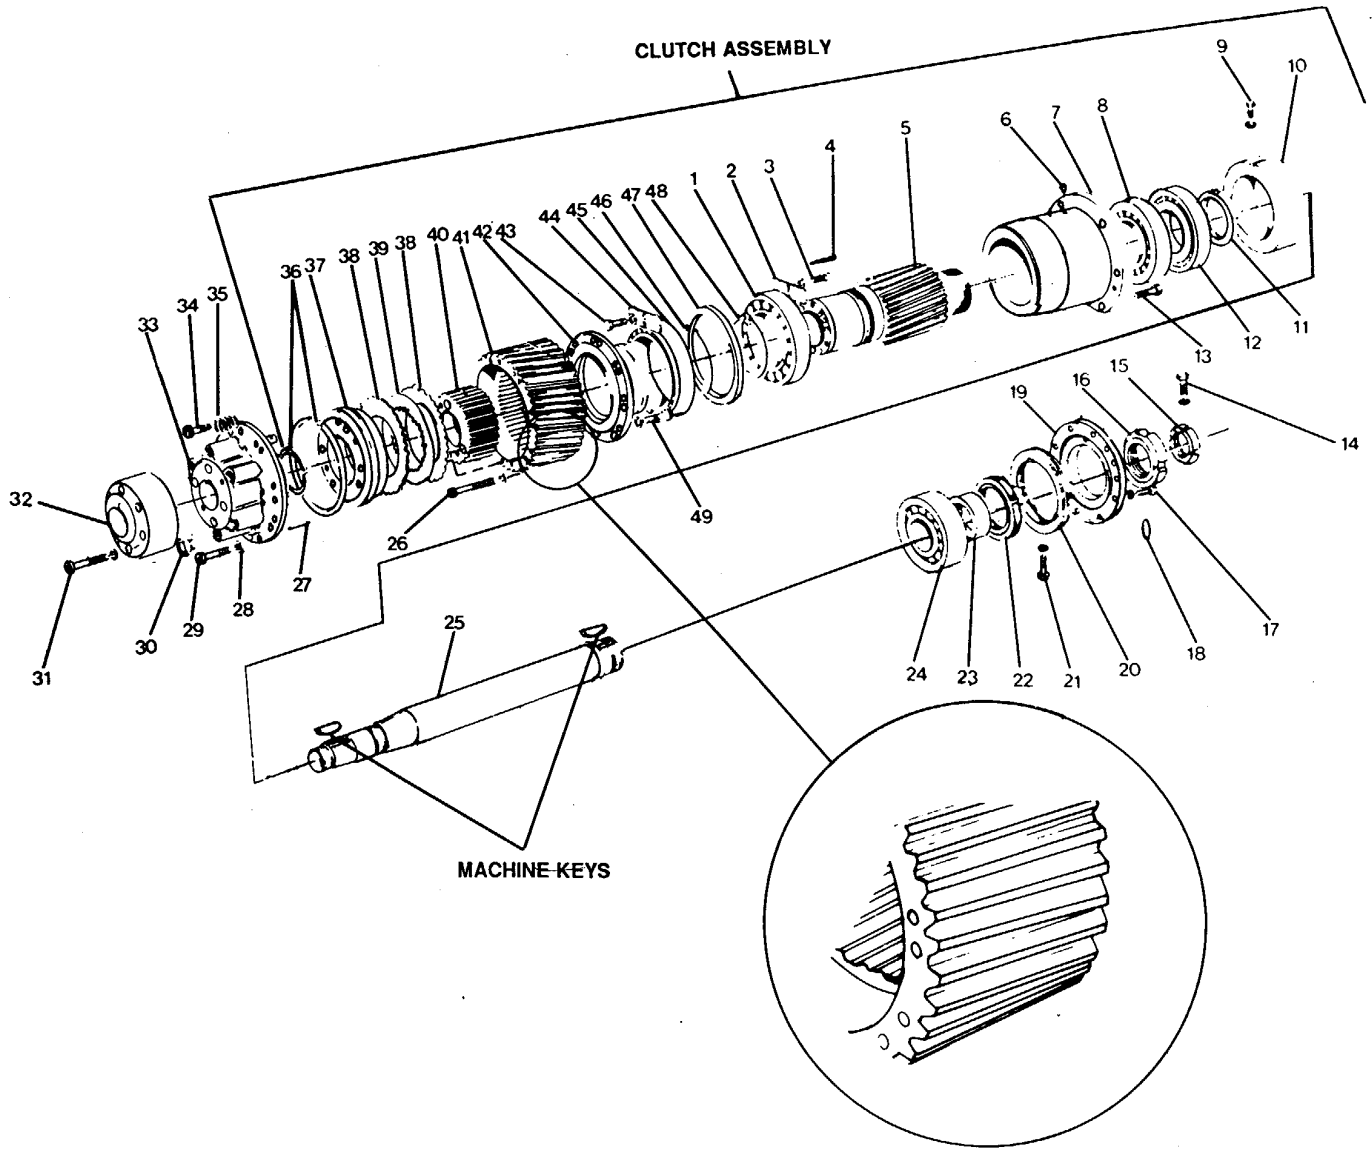
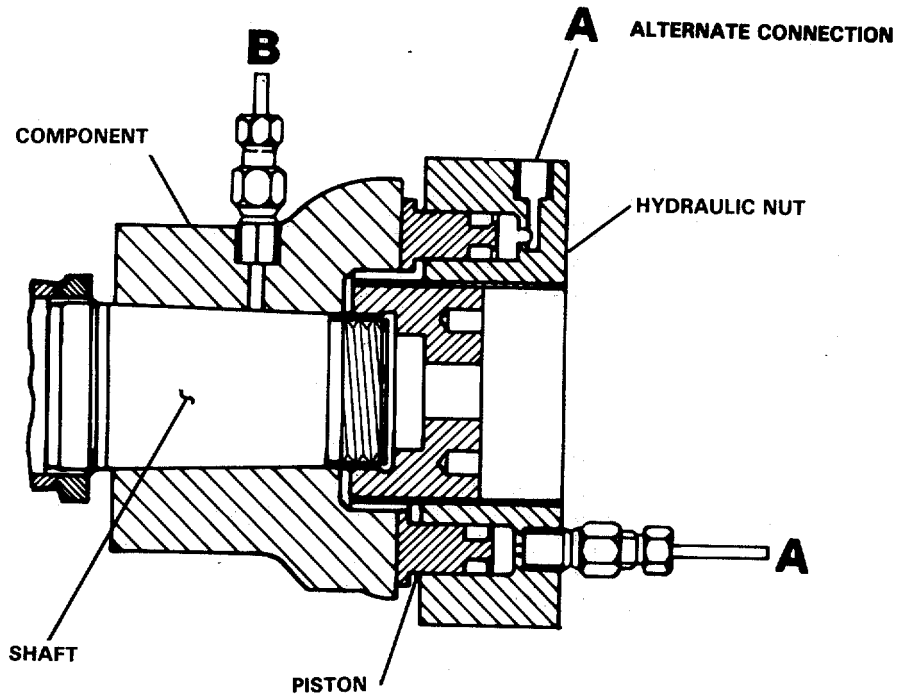

FIGURE 4-2. Input Shaft.
FIGURE 4-3. Hydraulic Nut Setup
4-9. **Repair Input Shaft.** (FIGURE 4-2)
- (1) Position hydraulic nut (FIGURE 4-3) to shaft (25) and thread to within 1-1/2 times the allowance number stamped on the face of the clutch cover (33). This allowance is the distance the clutch cover was pressed on the taper by the manufacturer. An increase in allowance is required now to allow the clutch cover to come off the taper and not jam against the hydraulic nut. (The word "AUFSCHUBMASS" stamped above the number means "allowance".)
- (2) Connect hydraulic pressure fittings as shown in FIGURE 4-3.
- (3) Build up a push-on pressure (connection A, FIGURE 4-3) of approximately 1,470 psi.
- (4) Expand the hub of the clutch cover by applying an expanding pressure (connection B, FIGURE 4-3) of approximately 30 psi.
- (5) Wait until the oil has penetrated the hub, then reduce the push-on pressure (connection A) slowly to zero. The clutch cover should become detached at this point, suddenly and with great force.
- (6) If the clutch cover does not detach, proceed as follows:
- (a) Increase expanding pressure (connection B, FIGURE 4-3) to 35 psi.
- (1) Remove assembled washer/screws (26) from clutch carrier (40).
- (2) Remove clutch assembly off the shaft (25).
- e. Disassemble the clutch assembly (FIGURE 4-2).
- (1) Remove ring spacer (10).
- (2) Remove threaded pin (6) from bearing casing (7).
- (3) Remove capscrews (13) from bearing casing (7) and remove bearing casing.
- (4) Remove washer/screw (9) from nut (11) and remove nut (11).
- (5) Remove bearings (8 and 12) with bearing puller.
- (6) Remove rings (36) from annular piston (37).
- (7) Remove annular piston (37) and discs (38, outer, and 39, inner) from clutch casing(41).
- (8) Remove screws (26) from carrier (40) and remove carrier from clutch casing (41).
- (9) Remove screws (49) from clutch carrier (42) and remove clutch casing (41).
- (10) Remove screws (3 and 43) and tightening sleeve (4) from locking plates (2 and 44).
- (f) Place the hydraulic nut on the shaft and connect the oil fittings. See FIGURE 4-3.
- (g) Pre-stress the clutch cover by applying approximately 115 psi to connection A, FIGURE 4-3.
- (h) Expand the hub of the clutch cover by applying expanding pressure at connection B, FIGURE 4-3. Amount of pressure is from 22 psi to 27 psi.
- (j) Apply 1160 PSI push-on, or fitting, pressure at connection A, FIGURE 4-3.